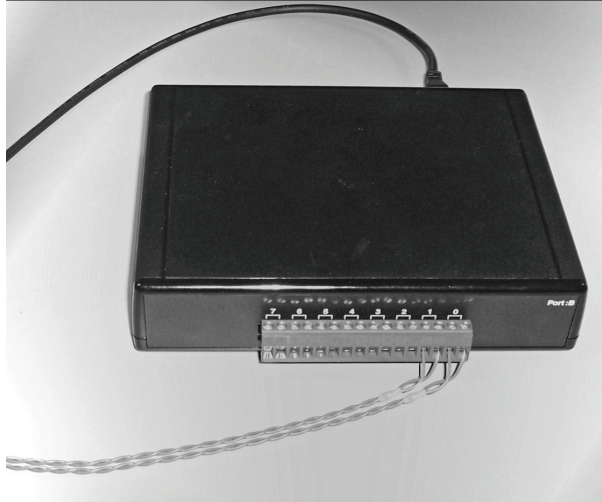

Figure 64 SeaLINK relay box showing connections to the FT-IR and GC-MS computers
6. Insert the bifurcated wires of the RS232 cable into the two cable connectors labeled "0" on the Port:B side of the relay box and secure them in place with a screwdriver (Figure 64).
7. Connect the wires from the external start connections on the GC (shown in Figure 34) to the terminals labeled "1" on the Port:B side of the SeaLink relay box (Figure 64).